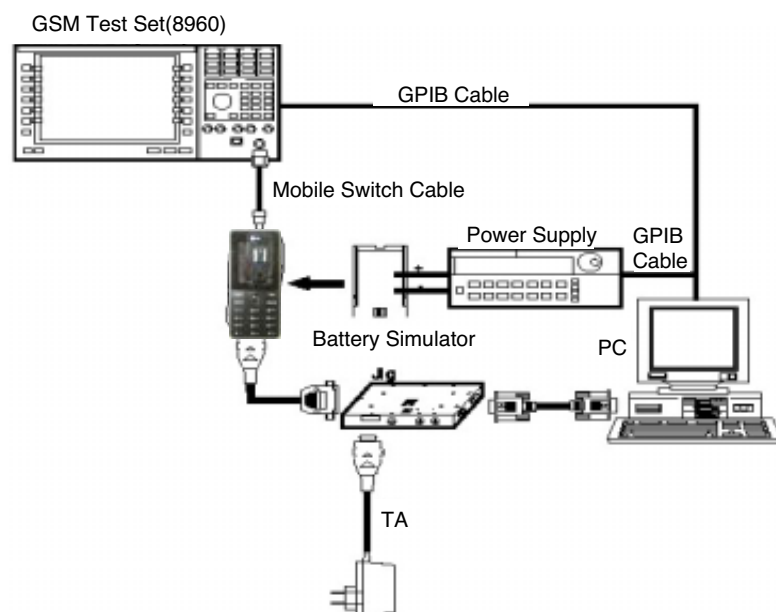

Figure 11-2. Equipment Setup
1. Connect as Fig 11-2(RS232 serial cable is connected between COM port of PC and MON port of TEST JIG, in general)
1. Connect as Fig 11-2 (RS232 serial cable is connected between COM port of PC and MON port of TEST JIG, in general.)